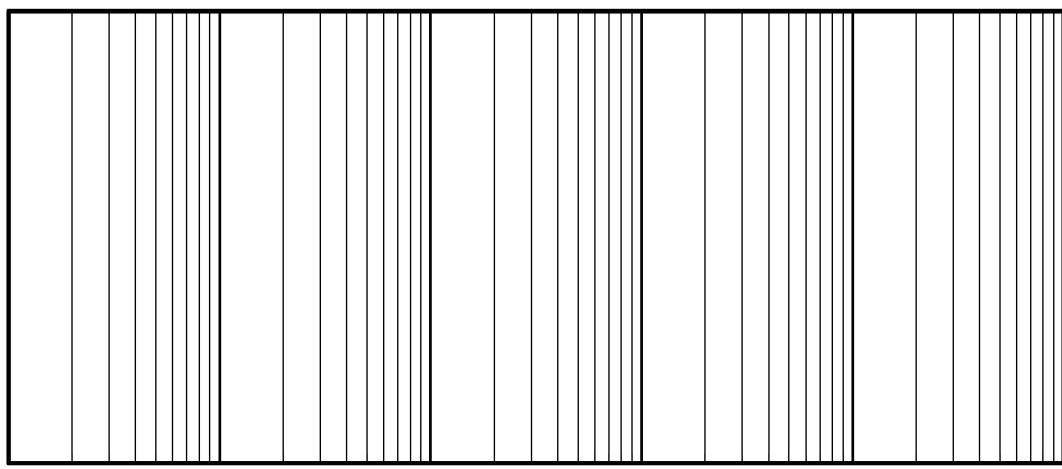
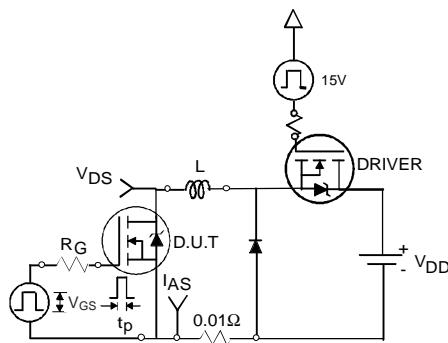

Fig 11. Maximum Effective Transient Thermal Impedance, Junction-to-Case
Fig 12a. Unclamped Inductive Test Circuit
- ① Repetitive rating; pulse width limited by max. junction temperature. (See fig. 11).
- ② Limited by $T_{J\text{max}}$, starting $T_J = 25^\circ\text{C}$, $L=0.24\text{mH}$, $R_G = 25\Omega$, $I_{AS} = 75\text{A}$, $V_{GS} = 10V$. Part not recommended for use above this value.
- ③ $I_{SD} \leq 75\text{A}$, $dI/dt \leq 220\text{A}/\mu\text{s}$, $V_{DD} \leq V_{(\text{BR})\text{DSS}}$, $T_J \leq 175^\circ\text{C}$.
- ④ Pulse width $\leq 1.0\text{ms}$; duty cycle $\leq 2\%$.
- ⑤ $C_{oss \text{ eff.}}$ is a fixed capacitance that gives the same charging time as C_{oss} while V_{DS} is rising from 0 to 80% V_{DSS} .
- ⑥ Limited by $T_{J\text{max}}$, see Fig.12a, 12b, 15, 16 for typical repetitive avalanche performance.
- ⑦ This value determined from sample failure population. 100% tested to this value in production.
- ⑧ This is applied to D²Pak, when mounted on 1" square PCB (FR-4 or G-10 Material). For recommended footprint and soldering techniques refer to application note #AN-994.
- ⑨ Max $R_{DS(\text{on})}$ for D²Pak and TO-262 (SMD) devices.
3. Equation below based on circuit and waveforms shown in Figures 12a, 12b.
- $Z_{thJC}(D, t_{av})$ = Transient thermal resistance, see figure 11